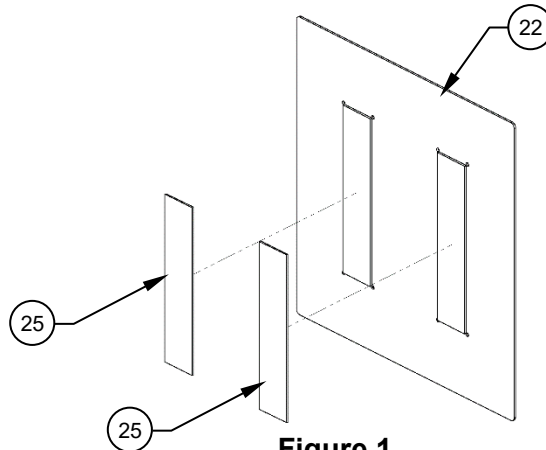

Figure 1
1. Make the aircraft ready for maintenance. Gain access to the baggage compartment. Reference Figure 1.
3. Locate the LHS FWD Bulkhead Panel, Assy, (Item 22), so that it is centered and clears all aircraft structure on the LHS FWD bulkhead. Transfer 8x hole locations from the LHS FWD Bulkhead Panel, Assy, (Item 22), to the baggage LHS FWD Bulkhead with a permanent marker. Reference Figure 1.